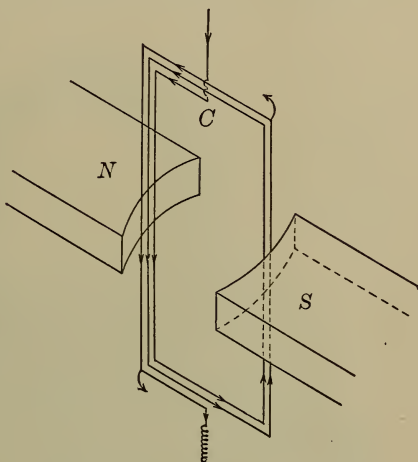

FIGURE 187.—WIRING DIAGRAM OF A GALVANOMETER.
**219. The Galvanometer.** — The galvanometer is an instrument used to detect an electrical current in a conductor. It consists of a coil of wire (*C*, Figure 187) suspended between the poles (*N* and *S*) of a permanent magnet by means of a phosphor-bronze ribbon ending in a small spring at the bottom.